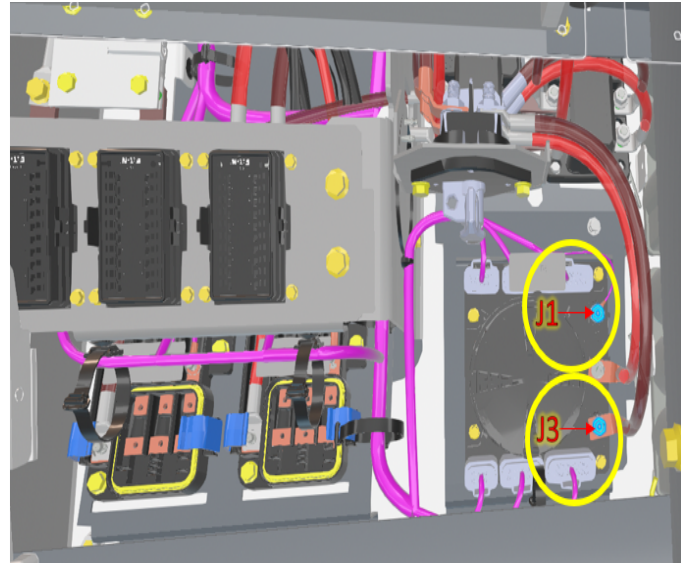

Figure 30 - FLEC module terminals
1. Using a 24 V charger, connect the charger's negative cable clamp to the **J1 terminal** of the FLEC module (**Figure 30**), which is located in the LVDU compartment.
2. Connect the 24 V charger's positive cable to the **J3 terminal** of the FLEC module (**Figure 30**).